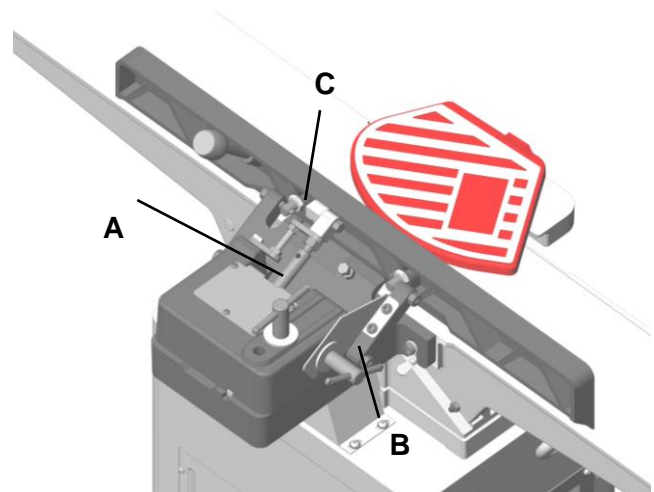

FIGURE 24
Fence adjustments are made with the lock handles shown in Figure 24. To slide the fence forward or back on the table, loosen lock handle (A), slide the fence to the desired position and tighten handle (A) to secure fence.
1. Loosen locking bolt (B), Figure 24.
2. Place a machinist protractor or triangle on the table and against the fence. Adjust the fence to the desired angle and tighten locking bolt (B) to secure the fence.
2. Flip back the stop block (C).
3. Adjust the fence to the desired angle and tighten locking bolt (B) to secure fence.
NOTE: The handle (A, Figure 24) can be adjusted to a more convenient position by loosening the nuts on its opposite end, turning the handle to the proper position, and retightening the nuts.